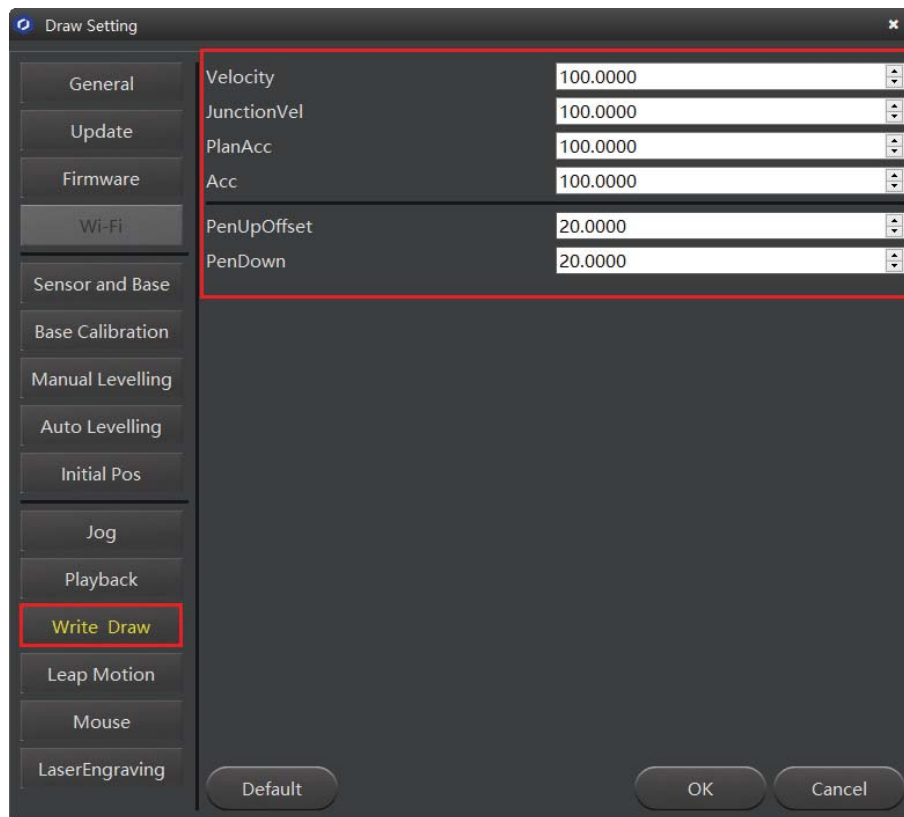

Figure 5.76 Setting the parameters of the Write & Draw function
- Click **Write & Draw** to set the Dobot Magician's **Velocity** (mm/s), junction velocity (**JunctionVel**: mm/s), **PlanAcc** (mm/s²), acceleration (**Acc**: mm/s²), **PenUpOffset** (mm), **PenDown** (mm), as shown in Figure 5.76.